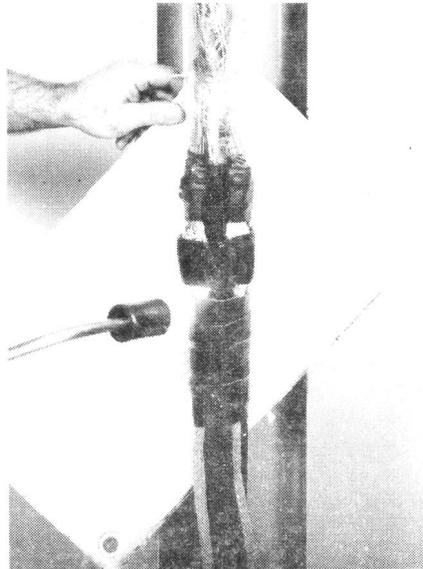

Fig. 17 — Preheating Cables
5.18 Use the Heat Shield Pad to protect the pedestal and surrounding area by placing the pad between the cap and the pedestal, as seen in Figs. 17 and 19.